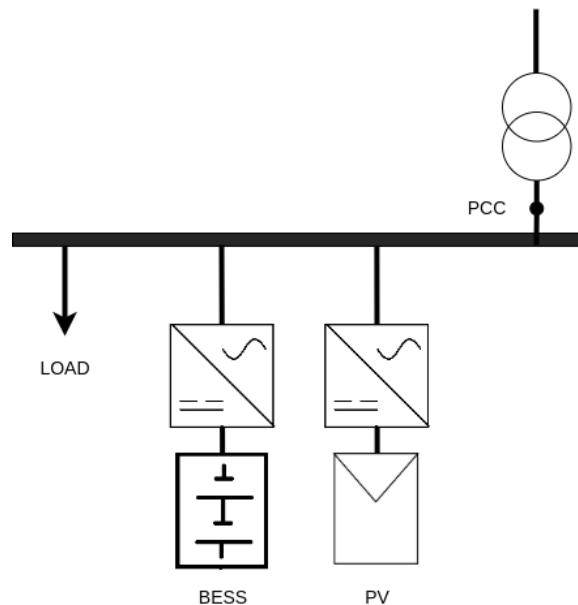

Figure 2
Given a plant described by the simplified SLD reported in Figure 2 installing a photovoltaic (PV) inverter and a battery energy storage system (BESS), develop an algorithm to control the active power traded by the plant at the point of common coupling (PCC) by tuning the maximum active power production of the PV inverter and the BESS active power set point.